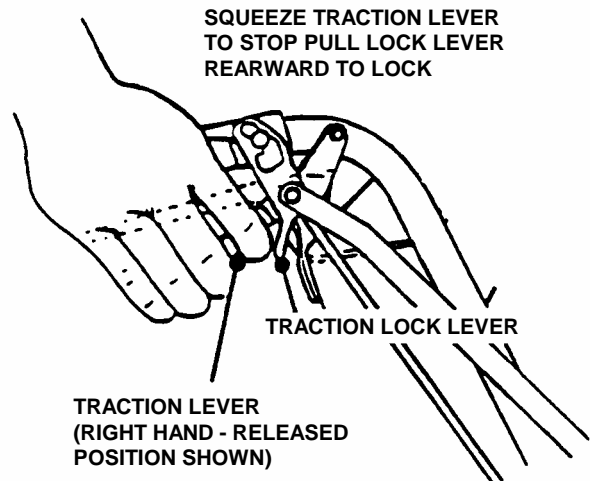

FIGURE 3.9
3. Move Transmission Shift Lever to **REVERSE (R)** position.
7. **PISTOL GRIP - TO STOP MACHINE**, Simultaneously squeeze both Traction Levers firmly against the handle while pulling the Traction Lock Lever rearward with index finger until latched. See Figure 3.9.